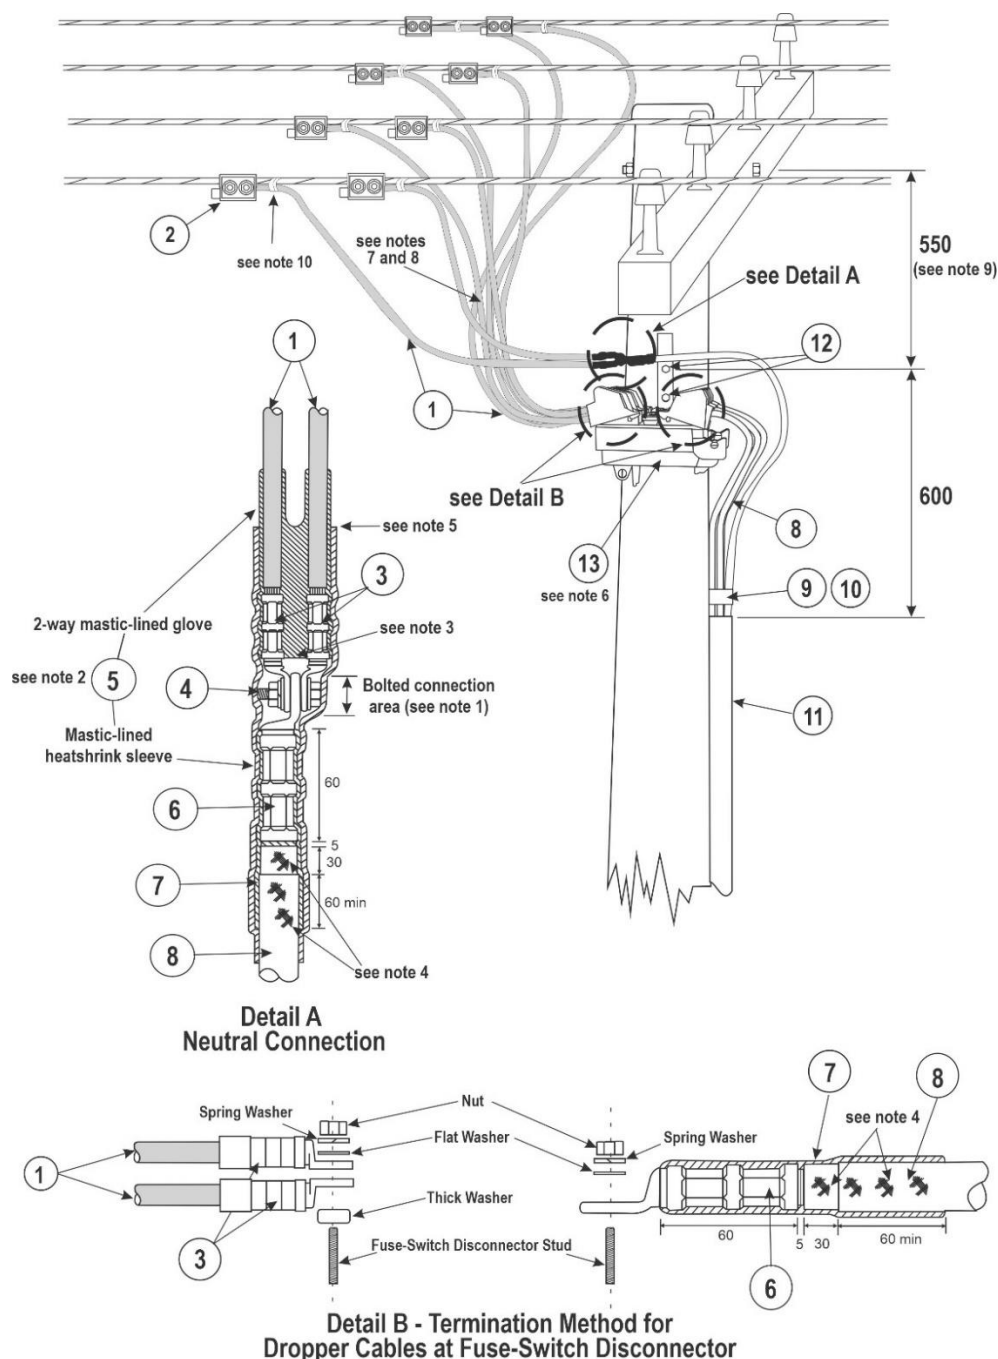

Figure 18.1 – General Arrangement
1. Cover the bolted connection area with fibreglass tape to keep it free from any adhesives flowing from item 5.
2. The heatshrink components required for the bolted connection are packaged as a single kit. Refer to item 5 for details.
4. Abrade the cable sheath and the cable insulation to the dimensions shown on Figure 18.1.